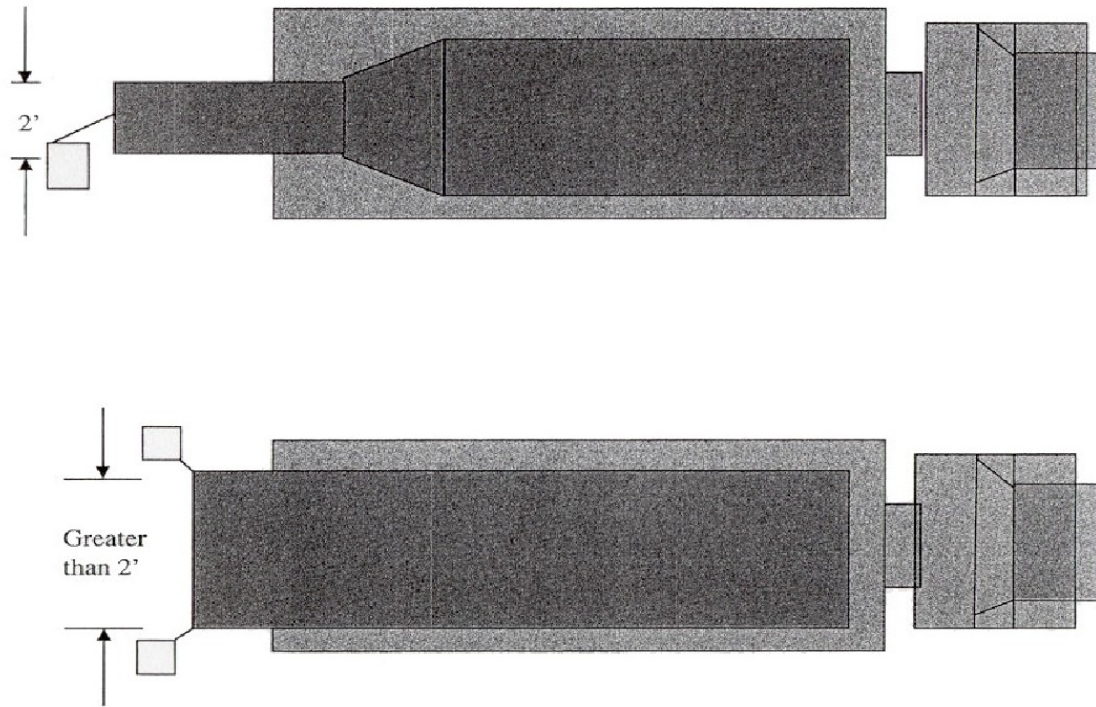

Figure 4.2: Warning Flags on Overlength Loads or Loads With a Rear-End Overhang
- 4.6.2.3 Flags are also required on vehicles and loads which exceed legal length or which have a rear overhang in excess of four (4) feet. There shall be a single flag at the extreme rear if the over length or projecting portion is two (2) feet wide or less. Two (2) flags are required if the over length
or projecting portion is wider than two (2) feet and shall be located to indicate maximum width. (See Figure 4.2)